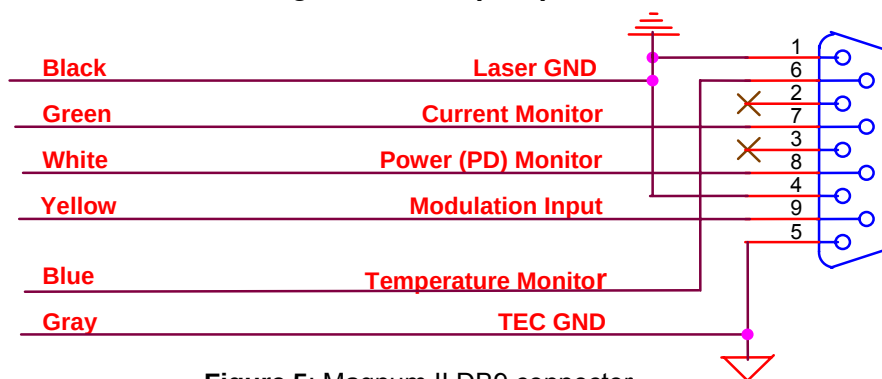
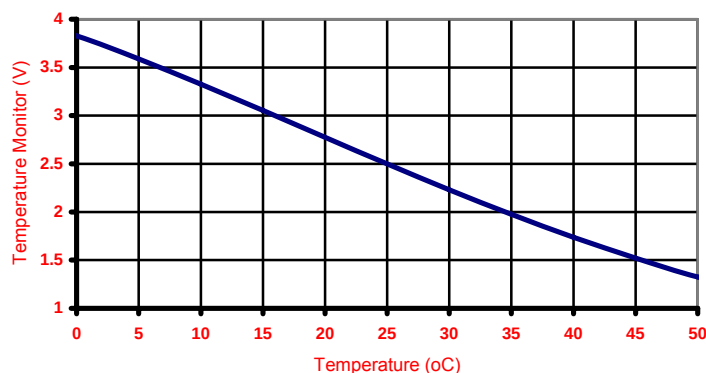

Figure 5: Magnum II DB9 connector
Figure 6: Temperature monitoring voltage vs. temperature
Magnum II users can use the DB9 plug provided by StockerYale (Fig. 2 & Fig. 5) or use their own DB9 plug. This connector is used for the modulation of the output optical power and also for monitoring the main parameters of the laser:
- **Modulation input:** The external modulation signal should be applied between pin 9 – signal, and pin 4 – ground (Fig. 5).
- **Laser current monitoring output:** The monitoring voltage of laser diode current is available between pin 7 – signal, and pin 1 – ground (Fig. 5). By default, the value in mV or Volts is approximately equal to the diode current value in mA or Amperes. However, even if the scaling factor is not accurate, the voltage is proportional to the laser current.
- **Beam power monitoring output:** The monitoring voltage of laser diode beam power is available between pin 8 – beam, and pin 1 – ground (Fig. 5). By default, the value in mV or Volts is approximately equal to the laser output power value in mW or Watts. However, even if the scaling factor is not accurate, the voltage is proportional to the current of the monitoring photodiode.
- **Laser diode temperature monitoring output:** The monitoring voltage of laser diode temperature is available between pin 6 – signal, and pin 5 – ground (Fig. 5). The temperature monitoring voltage comes from a NTC thermistor; it is not proportional to the temperature in °C (see Fig. 6 below).